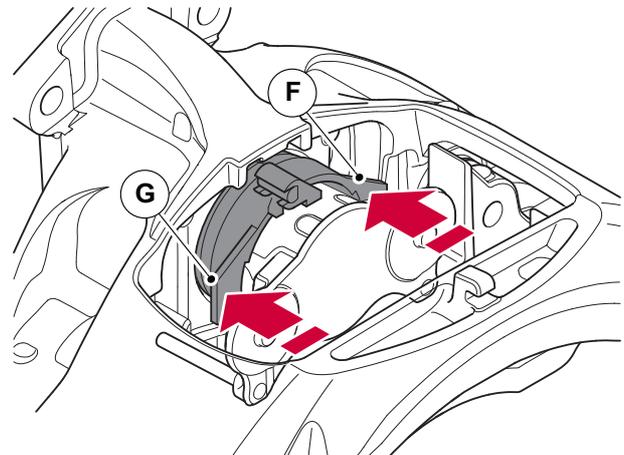

Figure 46. Pressing in the adjustment spindle bellows
11. Assemble Haldex special tool .P/N 95225 (F) and P/N 95226 (G) "6 Tools", load the assembled special tools into the calliper end of the adjustment spindle bellows. See figure 46.